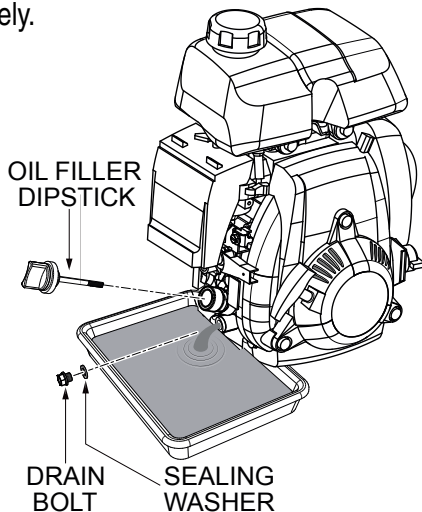

Figure 21. Engine Oil (Draining)
1. Drain the engine oil when the oil is **warm** as shown in Figure 21.